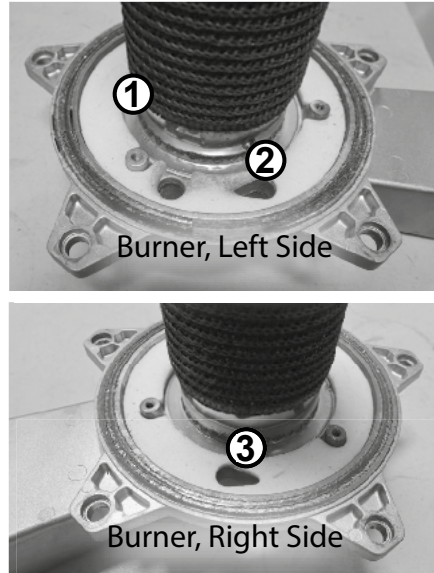

Figure 12 - Remove burner screws
20 Locate the three (3) screws securing the burner to the burner door as shown in Figure 12. Use a Phillips screwdriver to remove screws.